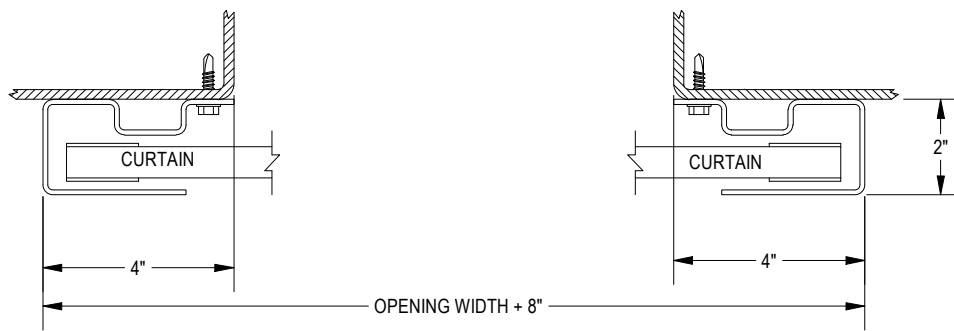

FIGURE 8: STEEL JAMBS
- **STEEL JAMBS:** $\frac{1}{4}$ " - 14 X 1" TEKS SCREW. **See Page 9 Figure 8.**